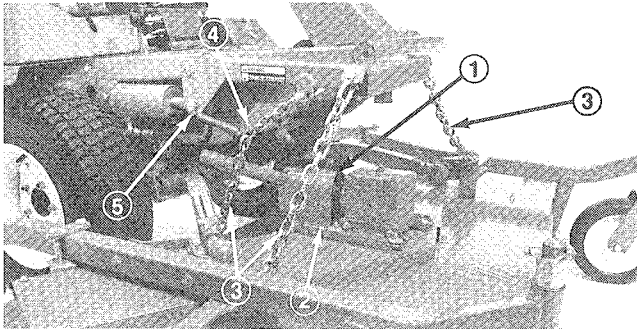

Figure 14
2. Mount PTO shield over input shaft and onto gear box mounting plate with two self-tapping screws (Fig. 14).
3. Attach lift chains to lift arm and cutting unit (Fig. 14) with six shackles, shackle pins (3/8 x 1-1/2 in.) (38 mm) and cotter pins (1/8 x 3/4 in.) (19 mm). Adjust chain length so both become tight at the same time when lifting lift arm.
4. Connect ends of tension spring between fourth link of rear chain and eye of cotter pin that holds cylinder pin in place (Fig. 14). Adjust length of chain so rear caster wheels are off the ground in transport position.